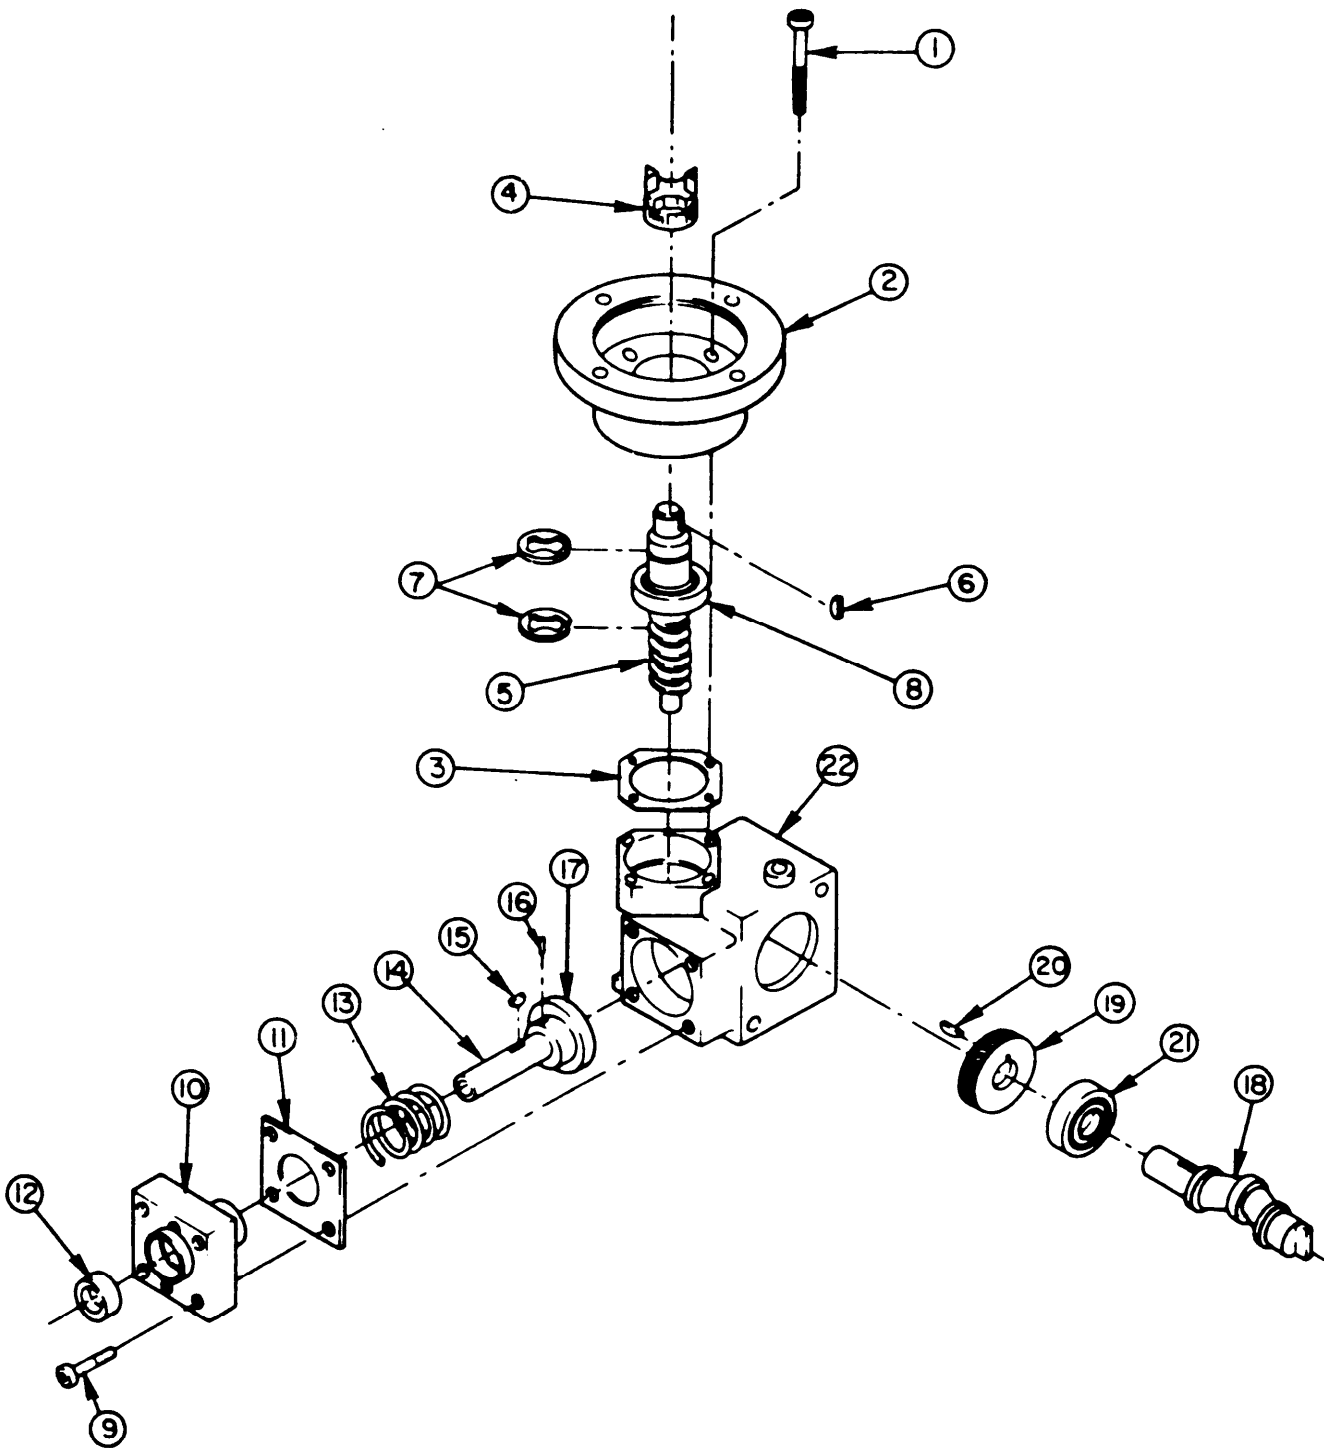

Figure 3-27. Chemical Feed Pump Block Assembly (ARMY)
b. Disassembly of Drive Gear Casing. (Figure 3-27) (ARMY)
- (4) Replace worn or damaged worm gear and worm wheel.
- (5) Replace worn, damaged, or unserviceable ball bearing assemblies.
- (6) Pack usable ball bearings in clean bearing grease.
- (7) Replace damaged, weak, fractured, or worn pump rod springs.
- (8) Replace damaged, worn, or unserviceable motor mounting flanges, stopping flanges, pump rods, and guide bushings.
- (9) Remove small scratches from crankshaft with fine emery cloth.
- (10) Replace damaged, bent, or unserviceable crankshaft.
- (11) Repair pump block/head assembly in accordance with paragraph 3-30.
- (12) Repair pump head assembly in accordance with paragraph 3-32.
- (13) Repair feed pump stroke adjustment control in accordance with paragraph 3-33.
g. Installation. (Figure 3-27) (ARMY)
- (1) Press bearing (21) on crankshaft (18).
- (2) Install Woodruff key (20) on crankshaft (18).
- (3) Install worm wheel (19) on crankshaft (18).
- (4) Install crankshaft (18) in pump block (22).
- (5) Slip stopping flange (17) over pump rod (14) and align pin hole.
- (6) Install pin (16) through stopping flange (17) and pump rod (14).
- (7) Install Woodruff key (15) in pump rod (14).
- (8) Install pump rod (14) with stopping flange (17) attached, in pump block (22).
- (9) Slip pump rod spring (13) over pump rod (14).
- (10) Slide new radial seal ring (12) into guide bushing (10).